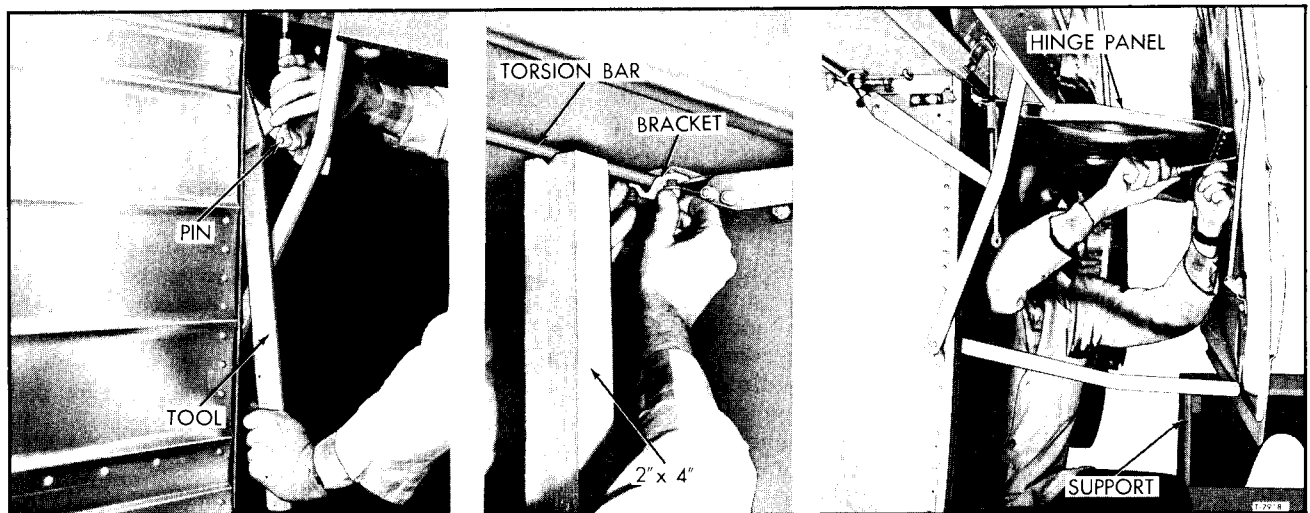

Figure 2A—Install or Remove Lock Link Pin, Control Arm End of Torsion Bar, and Lower Hinge
2. Install special tool on torsion bar control arm and hold steady while removing pin from lock link eye (fig. 2A). When pin is removed, allow arm and tool to raise until arm movement is stopped by upper edge of door opening. Remove tool from arm and perform same operation on the other torsion bar arm. NOTE: This does NOT relieve ALL tension from torsion bars.
3. Wedge a 2" x 4" (38-7/8" long with a 1/2" notch in one end) between baggage compartment floor and one torsion bar (fig. 2A). Loosen, BUT DO NOT REMOVE, all nuts which fasten torsion bar to coach. Remove nuts from studs at control arm end of torsion bar and slowly slide 2" x 4" from under bar, releasing tension. Install 2" x 4" under other torsion bar and perform same operations. Remove torsion bars one at a time. If both bars are loose, removal is easier.
as shown in figure 2A. Remove screws from door half of lower hinge.
1. Set door in half-open position and align hinge panel with inside of door. Fasten hinge to door with screws (see fig. 2A).